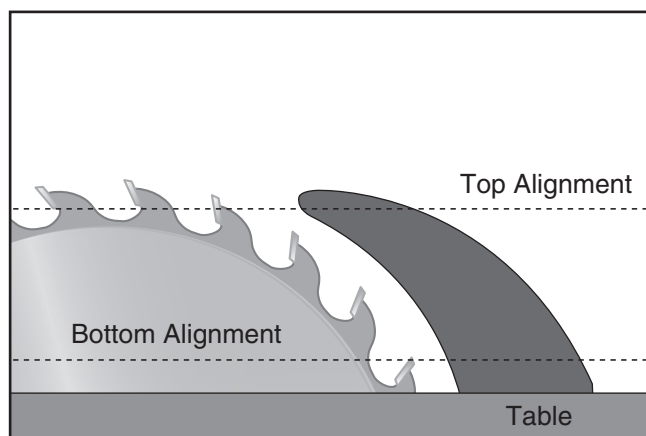
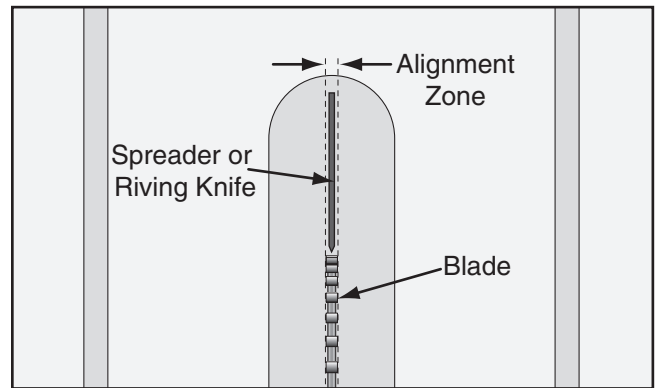

Figure 114. Checking top and bottom riving knife parallelism with blade.
Figure 115. Spreader/riving knife alignment zone.
3. Place the straightedge against the top and bottom of blade and spreader/riving knife, as shown in **Figure 114**. The spreader/riving knife should be parallel with the blade along its length at both positions, and it will be in the "Alignment Zone," as shown in **Figure 115**.